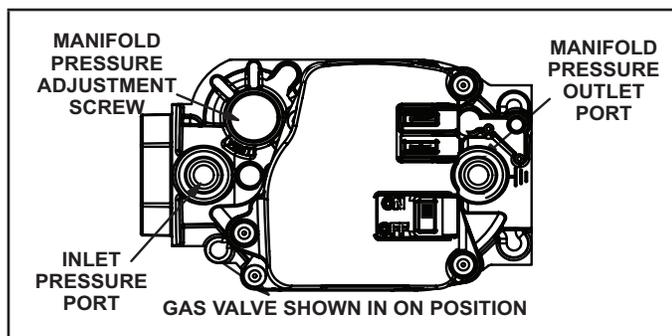

Figure 62
## Gas Valve Operation (“Figure 62”)
- 6 - Move gas valve switch to OFF. See “Figure 62”.
- 8 - Move gas valve switch to ON. See “Figure 62”.